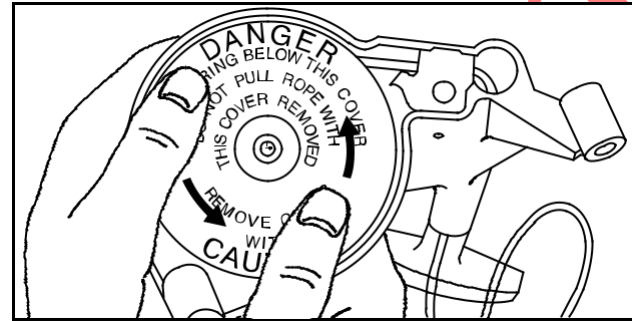

Fig. 62
9. Rotate pulley in a counterclockwise direction until rope is fully retrieved, Fig. 62.